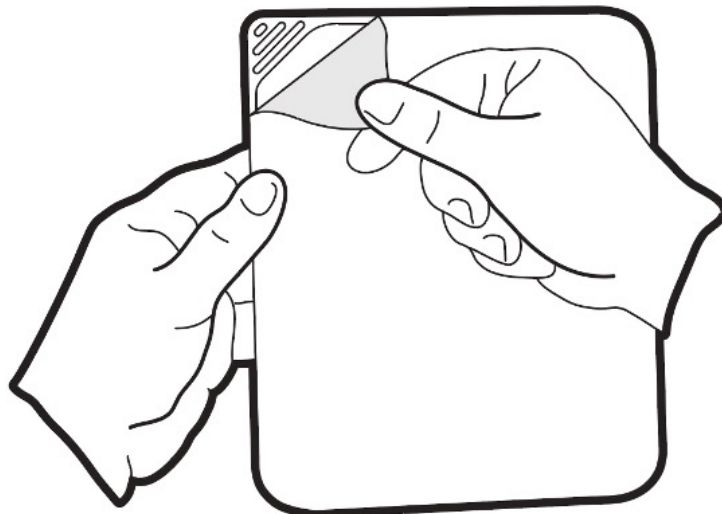

Figure 12 - Opening Tray by Pulling Tab
2. The outer tray should be opened by pulling the tab on the lid as shown in **Figure 12**. Set aside the outer tray lid and label with the device stickers on it (see **Figure 6** on page 9), to adhere to the Patient ID Card.
4. The inner tray should be opened by pulling the tab on the lid as shown in **Figure 12**.